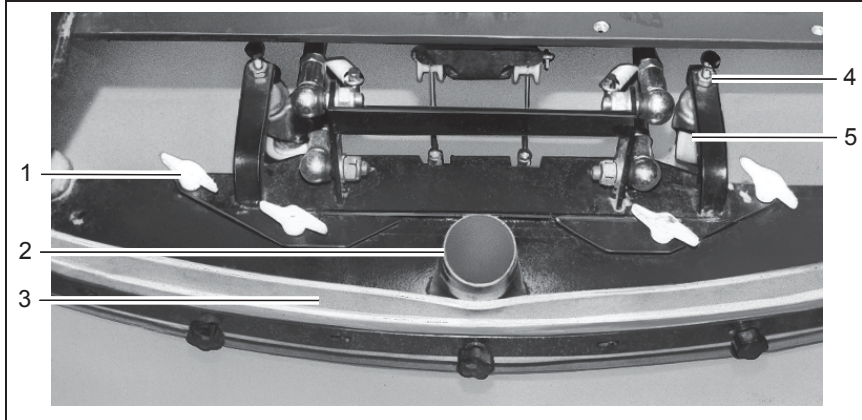

Fig. 10
5. Slide the squeegee from the rear under the lowered holding attachment and fix the squeegee to it with the four wing nuts (Fig. 10/1).
6. Attach the suction hose to the connection nozzle (Fig. 10/2) of the squeegee.
The squeegee must be set up on a level floor according to the conditions in which it is to be used. The squeegee must stand vertically on the floor (adjusted at the factory). The sealing strip (Fig. 10/3) should bend slightly to the rear when the vehicle is in operation. Support rollers (Fig. 10/5) limit its movement toward the floor. These support rollers must be adjusted in order to raise the contact surface of the squeegee:
- Loosen the counternuts (Fig. 10/4) and raise the support rollers on the left and right evenly (turn screw counterclockwise and lock again).